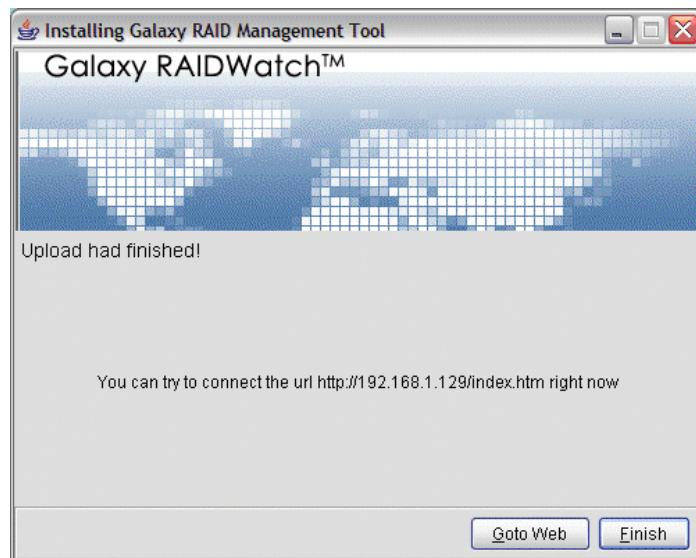

Figure 3-15: Successful Installation
Step 3. Once the software has been successfully installed, a window indicating the successful installation (see *Figure 3-15*) will appear. To complete the process and exit the window, click the *Finish* button.